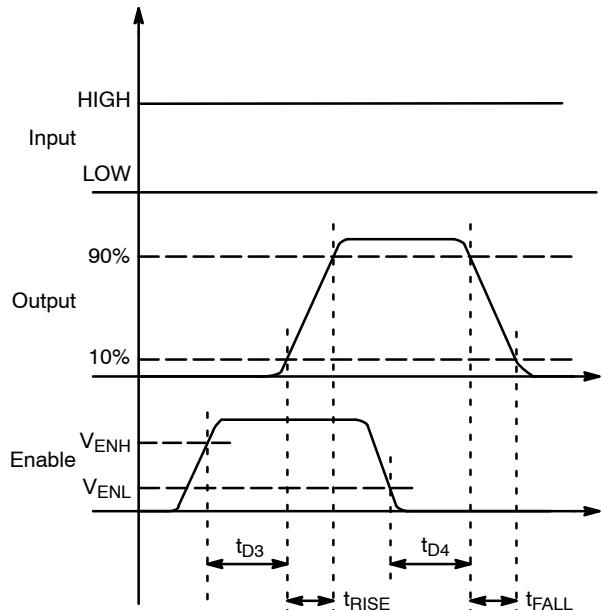
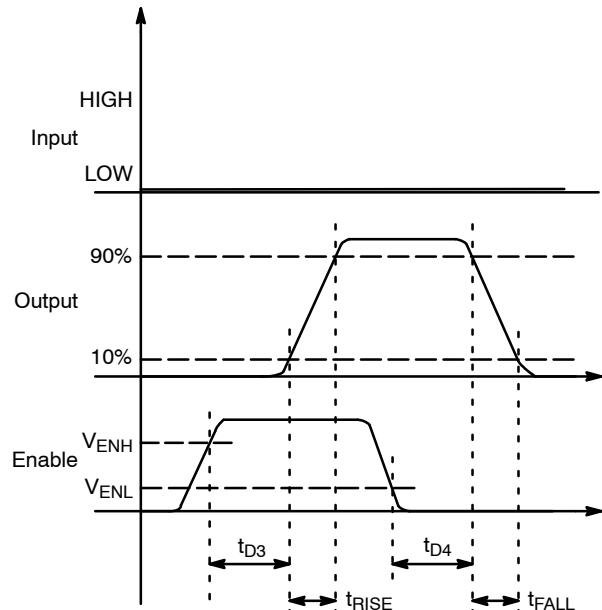

Figure 10. Non-Inverting (IN HIGH)
Figure 11. Inverting (IN LOW)
11. See *Timing Diagrams of Figure 10 and Figure 11*.